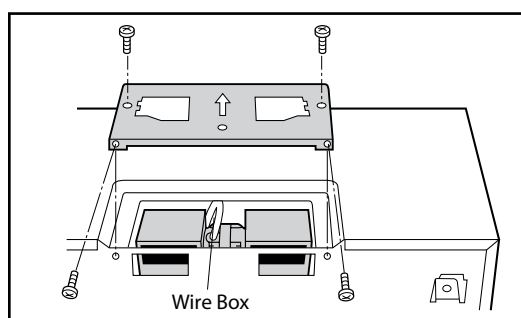

Figure 10
5. Replace the fan cover bracket. Make sure the fan blades are visible through the rear openings in oven before proceeding. Attach the fan cover bracket to the unit with the 4 screws removed in step 1 above. See Figure 10. The hood fan is now rotated for horizontal exhaust operation.